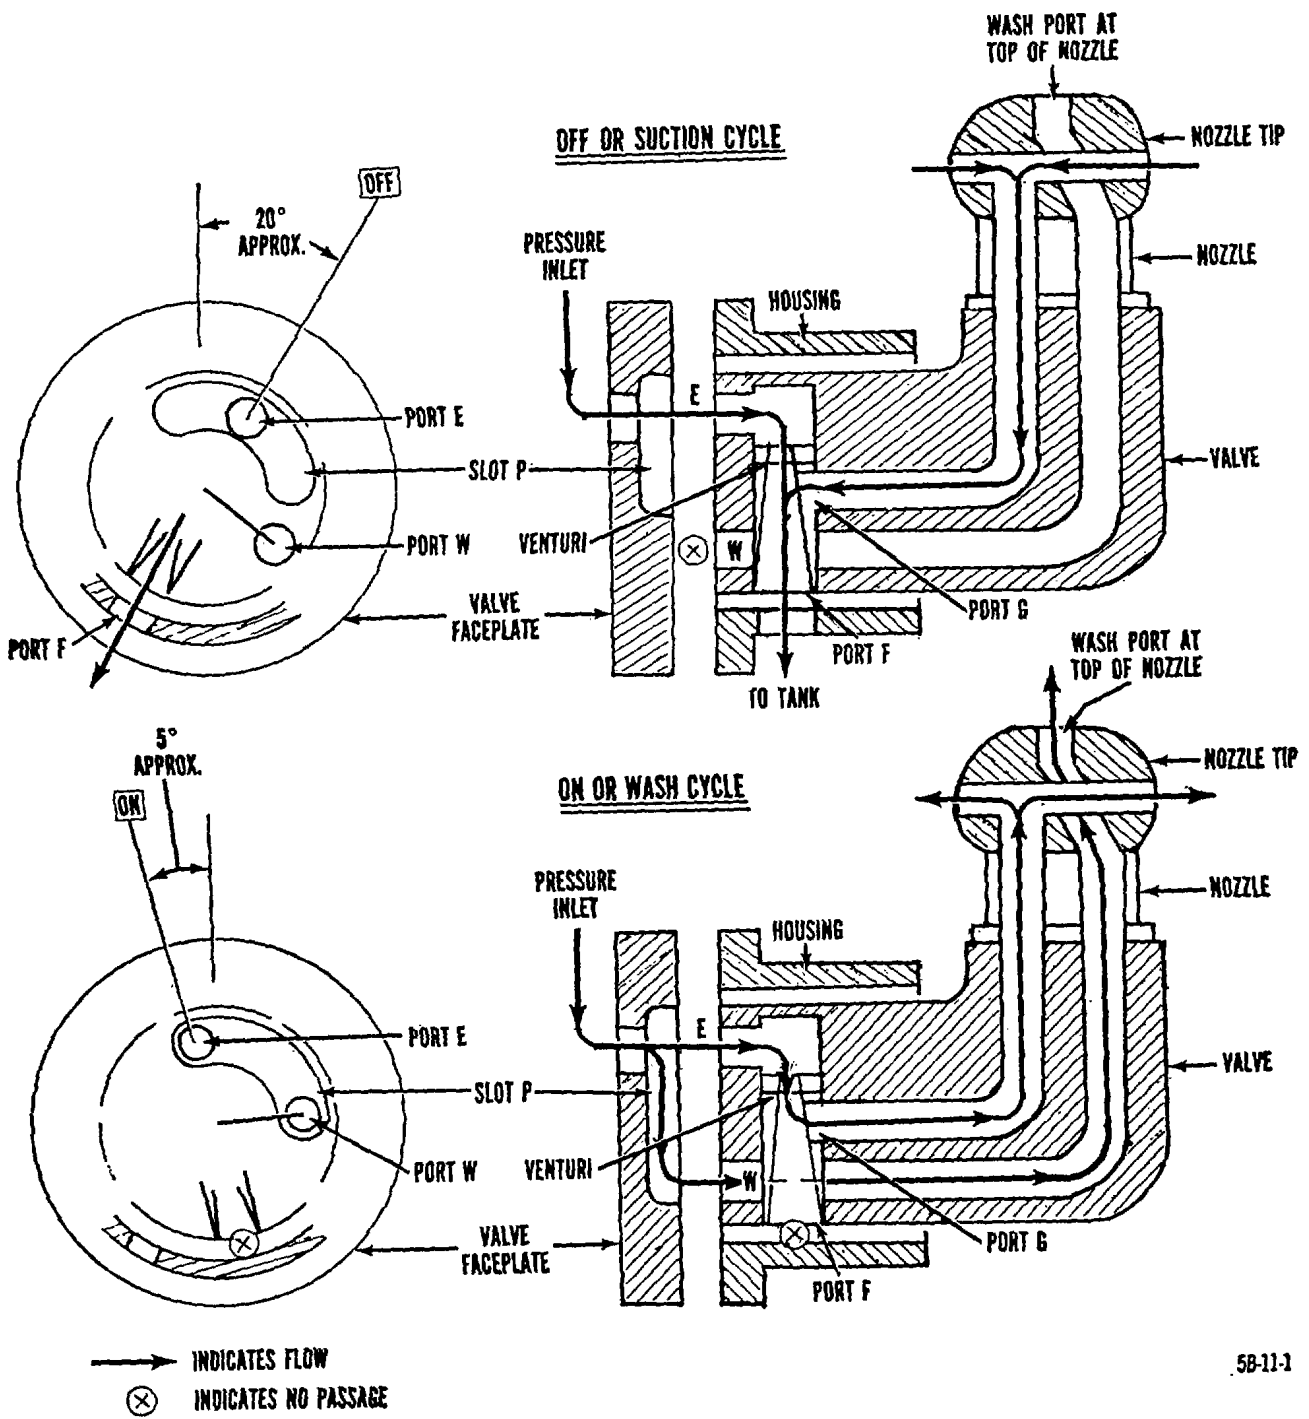

Figure 1. Cradle-valve flow chart.
- (1) Third echelon maintenance is that degree of maintenance authorized by pertinent publications to be performed by specially trained units in direct support of one or more using organizations, and is limited by specified authorizations of tools, parts, and equipment. These units support the lower echelons by providing technical assistance and mobile repair crews, when necessary, or in repairing the overflow from lower echelons.
- (2) Fourth echelon maintenance is that degree of maintenance authorized by pertinent publications to be performed by units organized as semifixed or permanent shops to serve lower echelons within a geographic area, and may furnish mobile repair crews or reinforcing elements to lower echelons when required.
a. *Function.* The cradle-valve assembly is designed to cause a suction action when the valve is rotated to the OFF position and to cause pressure action when it is in the ON position. To understand the flow of liquid through the valve, study figure 1.
(1) *Suction.* The top portion of figure 1 illustrates the valve in the OFF position. The valve faceplate and the valve housing are bolted together and remain stationary when the valve is rotated. The faceplate is provided with a single inlet (pressure inlet) and a slot (slot P). When the valve is rotated to the OFF position, port E is open and port W is closed. Because of this alignment of ports, the incoming liquid is forced to enter the smaller opening in the venturi. The velocity of liquid passing port G is such that it creates sufficient suction at this point to evacuate, through the nozzle tip, the cleaning solvent that remained in the 5-gallon can after washing.
(2) *Flushing.* The bottom portion of figure 1 shows the flow of the liquid when the valve is in the flushing position. When the valve is rotated to the ON or flushing position, solvent is permitted to enter both port E and port W. It is then forced through the openings on the nozzle tip into the 5-gallon can. Since port F is closed there can be no suction action when the valve is in the flushing position.